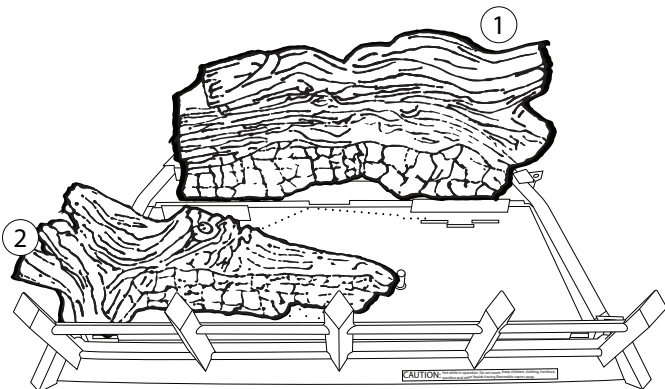

Figure 49.
2. Place the front left log (#2) on the pin located on the left side of the burner. (See Figure 49.)